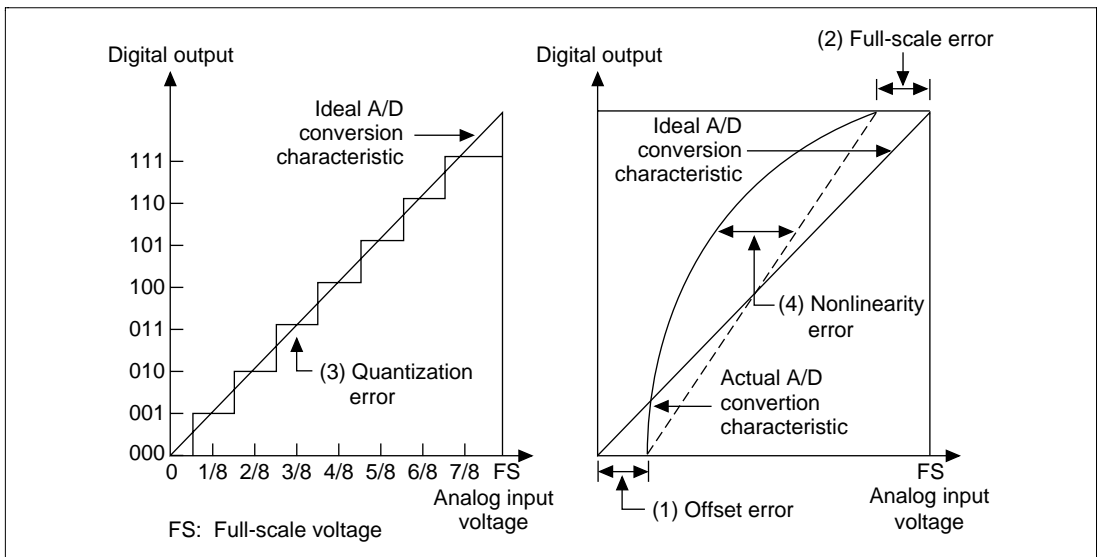

Figure 14.7 Definitions of A/D Conversion Accuracy
Offset error is the deviation between actual and ideal A/D conversion characteristics when the digital output value changes from the minimum (zero voltage) 0000000000 (000 in the figure) to 0000000001 (001 in the figure)(figure 14.7, item (1)). Full-scale error is the deviation between actual and ideal A/D conversion characteristics when the digital output value changes from 1111111110 (110 in the figure) to the maximum 1111111111 (111 in the figure)(figure 14.9, item (2)). Quantization error is the intrinsic error of the A/D converter and is expressed as $1/2$ LSB (figure 14.9, item (3)). Nonlinearity error is the deviation between actual and ideal A/D conversion characteristics between zero voltage and full-scale voltage (figure 14.9, item (4)). Note that it does not include offset, full-scale, or quantization error.